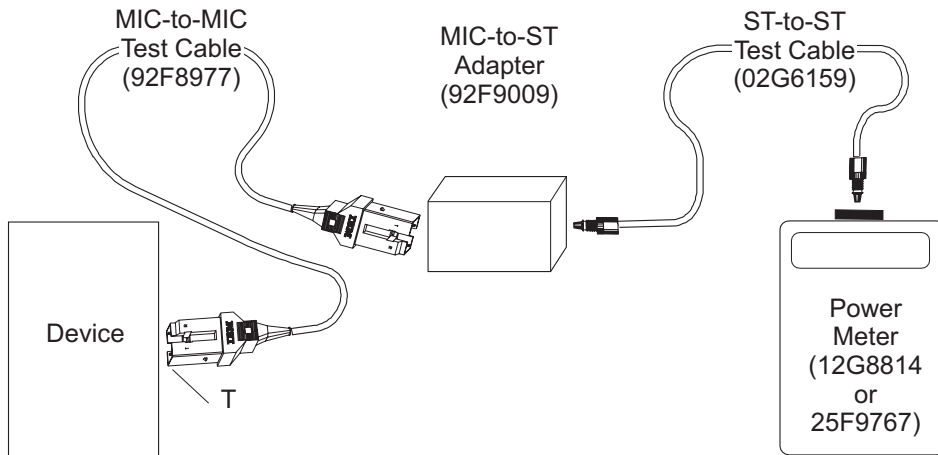

Figure C-7. Measuring Transmit-Out from a Multimode Device - FDDI
- Figure C-7 on page C-6; FDDI Multimode link